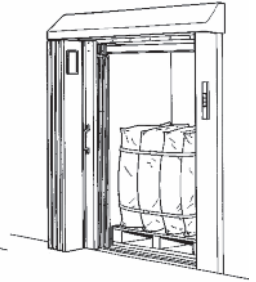

Fig. 10
- the load is secure and that items cannot move or topple over (Fig. 10).